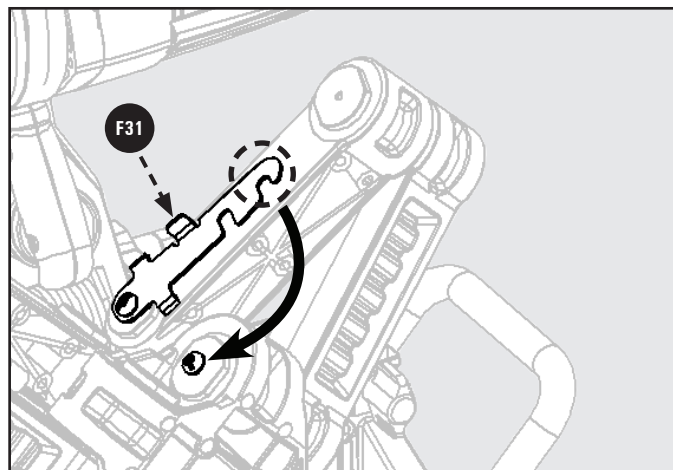

Figure 30
See Figure 30 and 31.
1. To use this saw as a traditional, non-sliding, miter saw: slide the saw head into the fully retracted position and engage the slide lock lever **F31**, baseboard notch. See Figure 30.